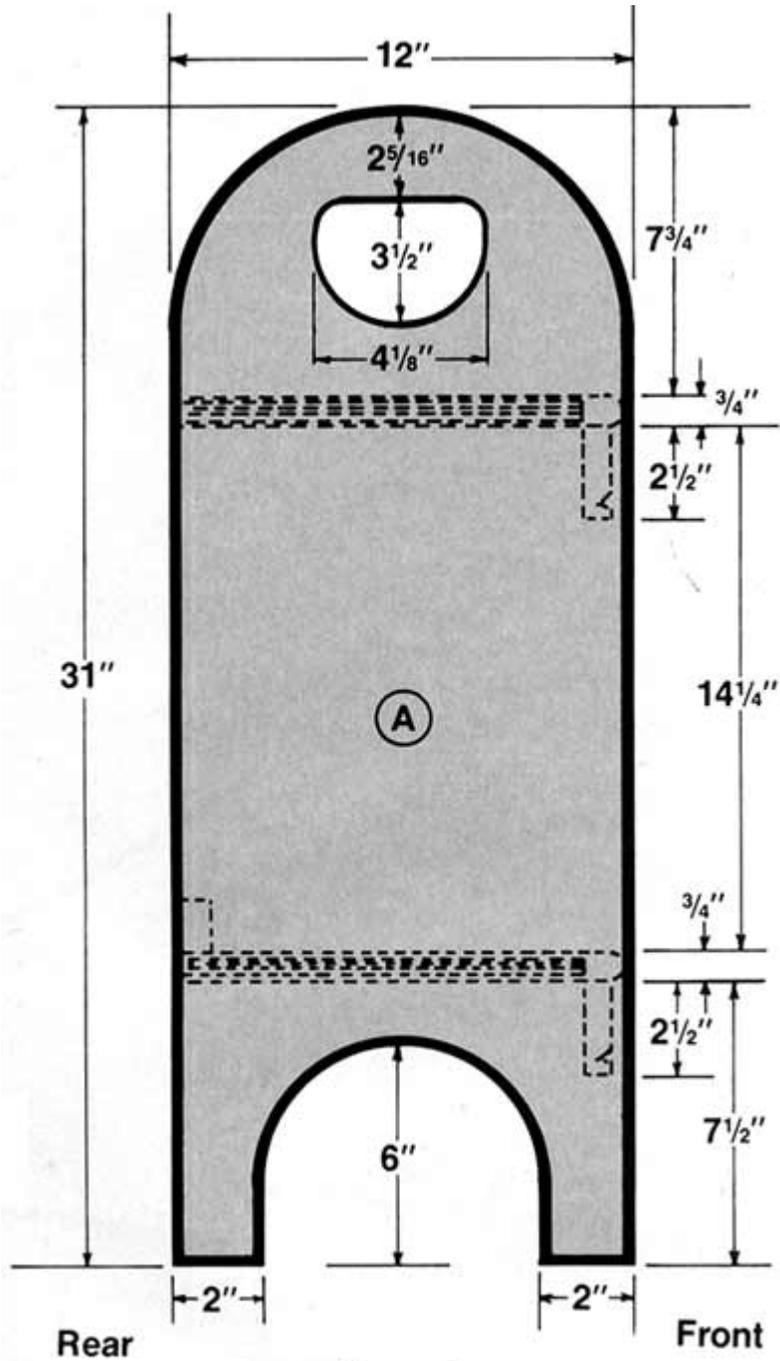

Figure 1
Use a Router Table with a 3/8" Dovetail Bit to cut the four 3/8" stopped dovetail grooves (11-3/8" long) in Sides (A) as shown in Fig. 1. Be sure to start both dovetail grooves at the rear of the Sides (A).
Drill starter holes in Sides (A) at their tops where the decorative areas are to be cut out (See Fig. 1). Use your Scroll saw to cut out the openings.